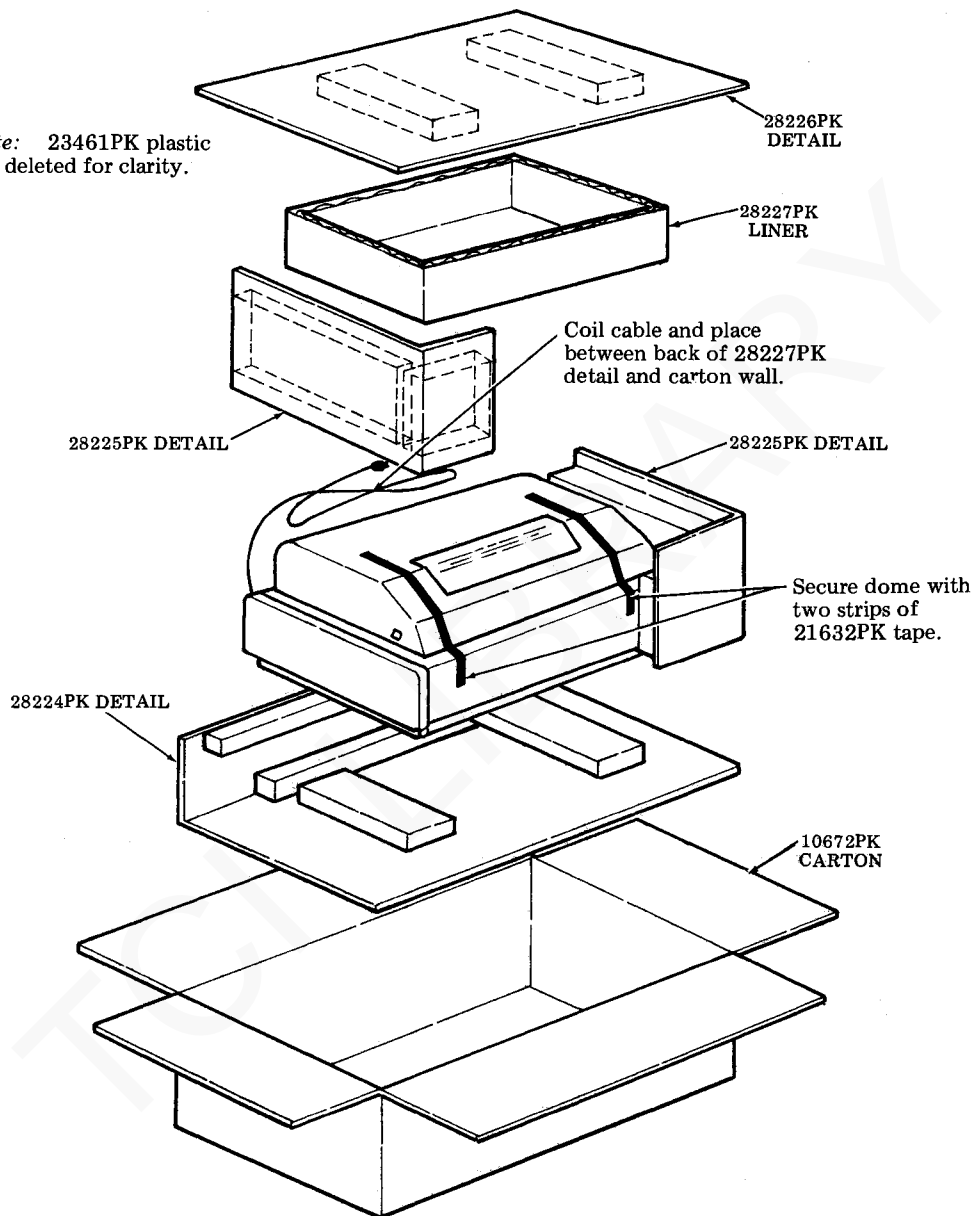

Fig. 26
- Step 1. Secure cover of cabinet with two strips of 21632PK tape. Follow contour of cabinet. (See Fig. 26).
- Step 4. Form a 28224PK detail and place in carton. See Fig. 26.
- Step 6. Position a 28225PK detail along each side and front of cabinet. See Fig. 26.
- Step 7. Extend cable outside of cabinet. Form and place a 28227PK liner on cabinet dome. See Fig. 26.
- Step 9. Place a 28226PK detail in carton as illustrated in Fig. 26.